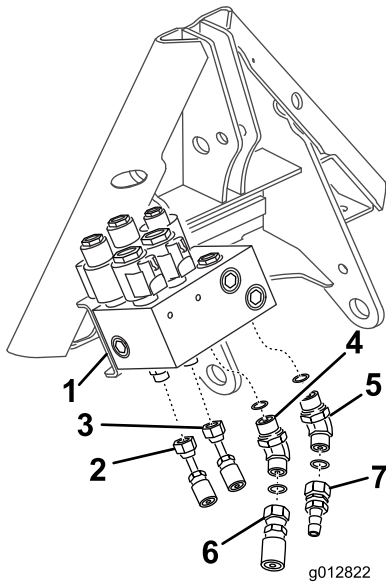
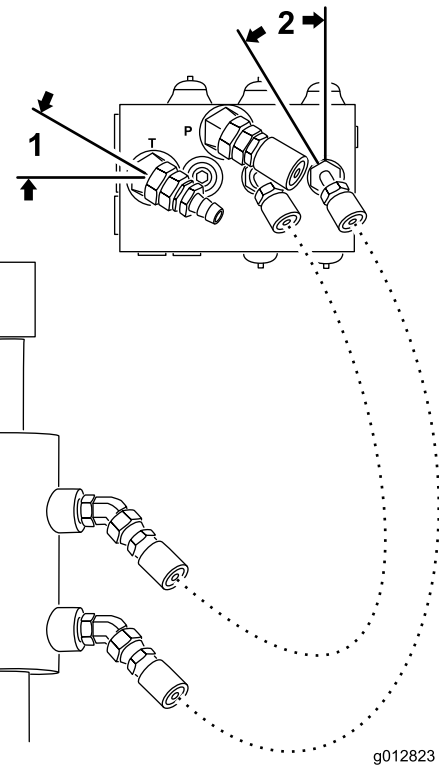
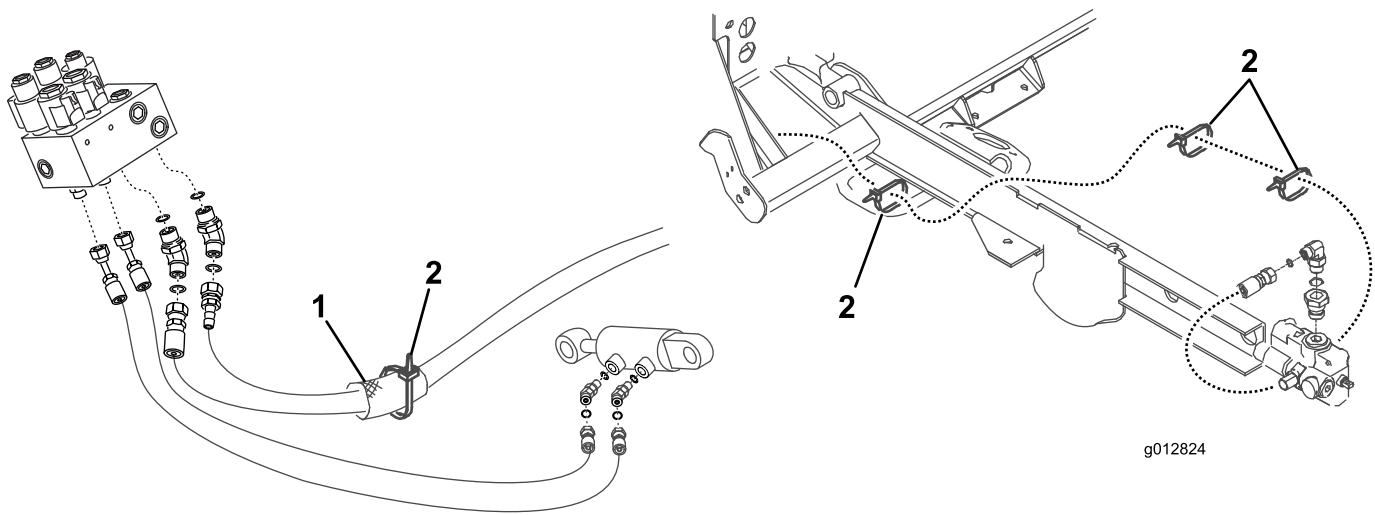

Figure 14
Figure 15
Figure 16
18. Connect the 2 hoses from the hydraulic cylinder to the fittings on the bottom of the hydraulic manifold (Figure 14 thru Figure 16). Orientate the fitting as shown in Figure 15.
1. 30 degrees (2)
2. 30 degrees (2)
19. Thread the 45 degree hydraulic fittings into the bottom of the hydraulic manifold (Figure 14). Orientate the fitting as shown in Figure 15.
20. Secure the short hose (25 inch) to the 45 degree fitting on the manifold (Figure 14).
21. Secure the long hose (95 inch) to the other 45 degree fitting on the manifold (Figure 14).
22. Insert the protective sleeve onto these hoses and secure with three cable ties (Figure 16).
33. Route the long manifold hose forward, under the radiator frame, over the frame cross member and along the frame rail back to the valve (Figure 16)
34. Secure the hose fitting to the valve fitting (Figure 16).